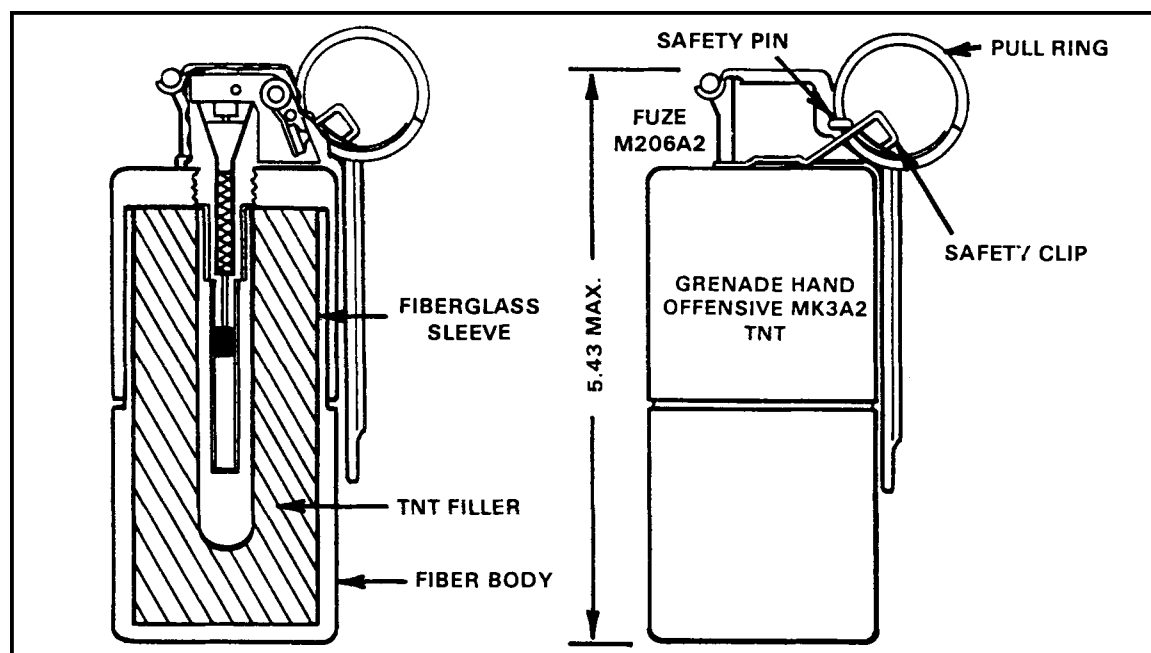

Figure 1-11. MK3A2 offensive grenade.
b. **Offensive.** The MK3A2 offensive hand grenade (Figure 1-11), commonly referred to as the concussion grenade, is designed to produce casualties during close combat while minimizing danger to friendly personnel. The grenade is also used for concussion effects in enclosed areas, for blasting, and for demolition tasks. The shock waves (overpressure) produced by this grenade when used in enclosed areas are greater than those produced by the fragmentation grenade. It is, therefore, very effective against enemy soldiers located in bunkers, buildings, and fortified areas.